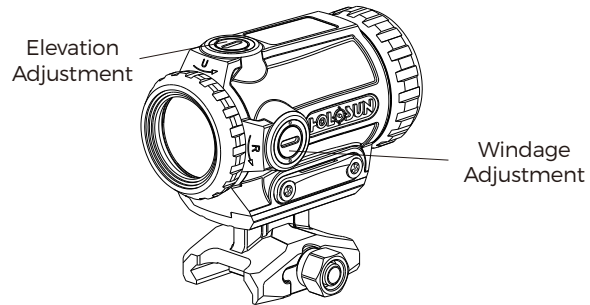

Fig 8
2. The Elevation adjustment is located on the top section of the housing and the Windage adjustment is located on the right side of the housing. Adjustment can be performed by inserting the flat-tipped end of the included tool into the turret slot and rotating. (See Fig 8)